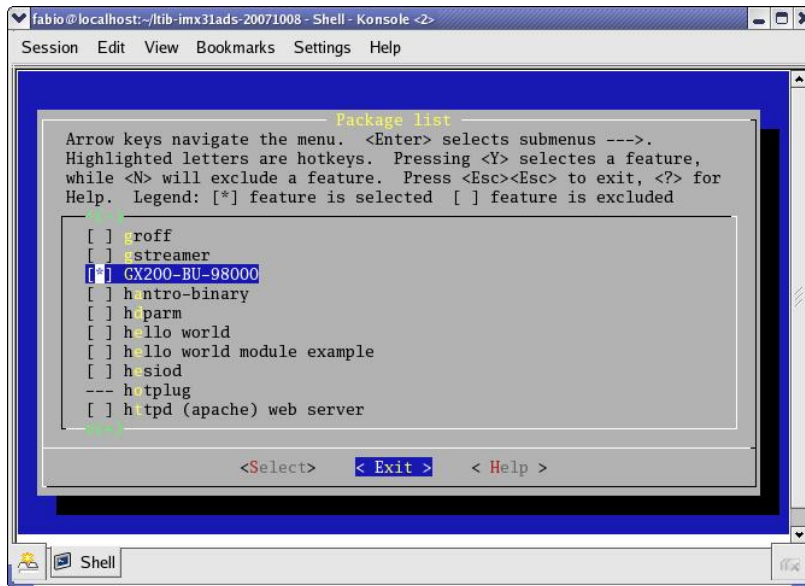

Figure 3 MBX Driver Selection
3. In the displayed list, select the MBX driver `[*] GX200-BU-98000` (Figure 3).